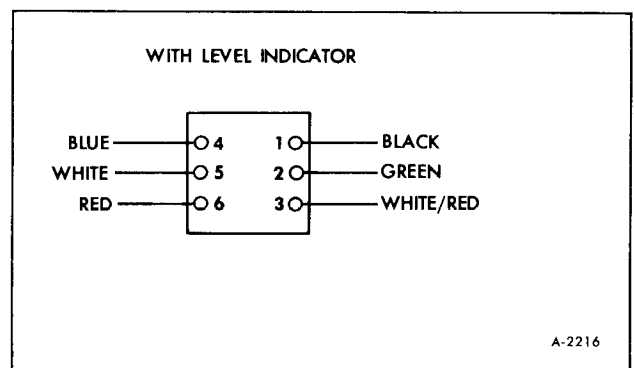

Figure 2—Control Panel Connector
3. Check the connector between the harness and control panel for proper connections. The male and female pins housed within the connector body should be straight and of equal height. They should be firmly attached to their respective wires (See figure 2).